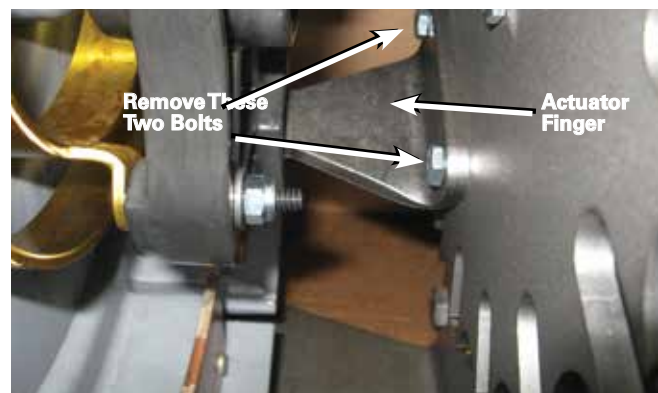

Figure 5. Actuator finger.
5. Remove the two bolts that mount the actuator finger with a 7/16" socket wrench. Remove the actuator finger. Refer to Figure 5.